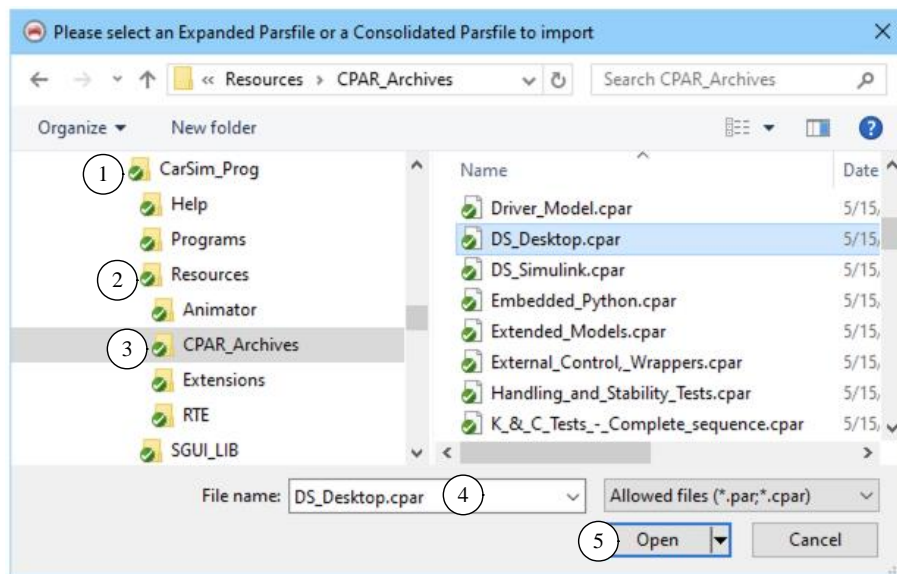

Figure 6. Select a DS CPAR archive to import.
3. You will be prompted to select a file to import (Figure 6). The CPAR archives are in the Prog folder for your product (e.g., CarSim_Prog (1)), in the subdirectory Resources\CPAR_Archives ((2) and (3)). As noted previously, there are two CPAR archives for DS: DS_Desktop.cpar (Simulink not used) and DS_Simulink.cpar. Choose one of these (4) and click the **Open** button (5).